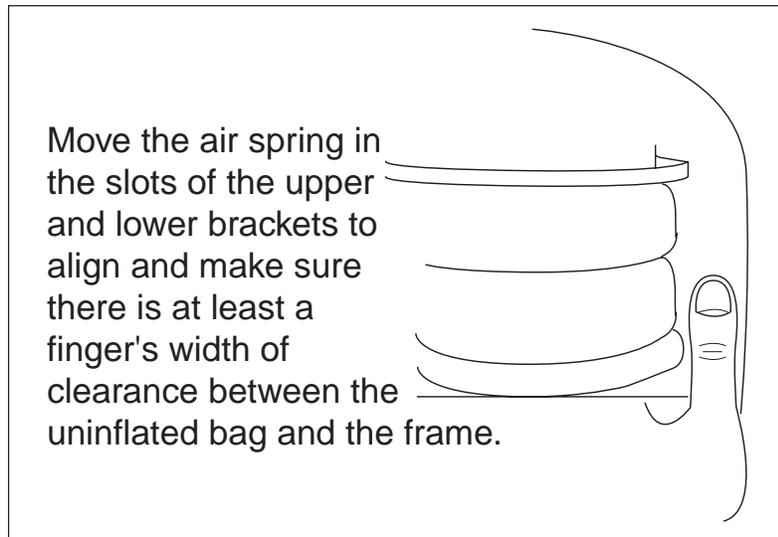

Figure 5
1. Align the bellows (A) in and out so that they are perpendicular to the upper and lower brackets (Figure 5).
*NOTE: Keep a finger's width between the roll plate (D) and frame (Figure 5).*